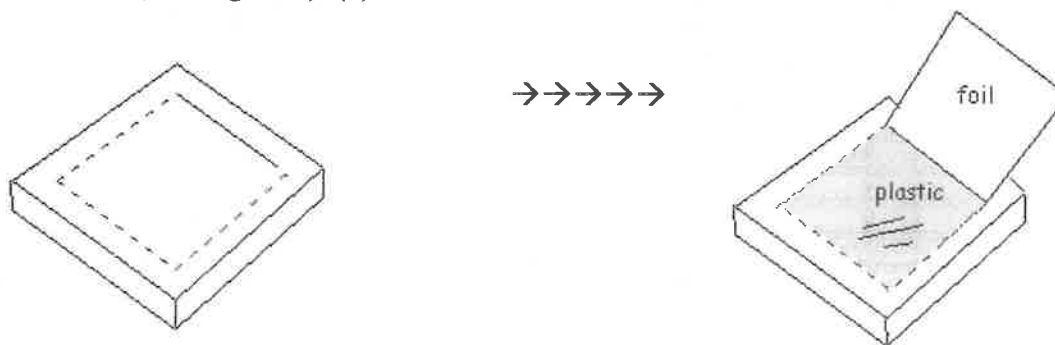

Figure 5: How to create the reflective flap for our oven.
The solar oven we plan to build has been adapted from many designs. The pizza box solar oven is capable of reaching temperatures of 275 degrees, hot enough to cook some food. Our ovens will be constructed from these materials: **a recycled pizza box, black construction paper, aluminum foil, clear plastic wrap, scissors, glue, and tape.** Our first step will be to construct the flap that will act as our solar collector. To do this, **draw a one inch border around all four sides of the top of the pizza box. Cut along three sides of this border, leaving an uncut line along the back of the box. Form the flap by gently folding back along the uncut line to form a crease** (See Figure 5). (6)